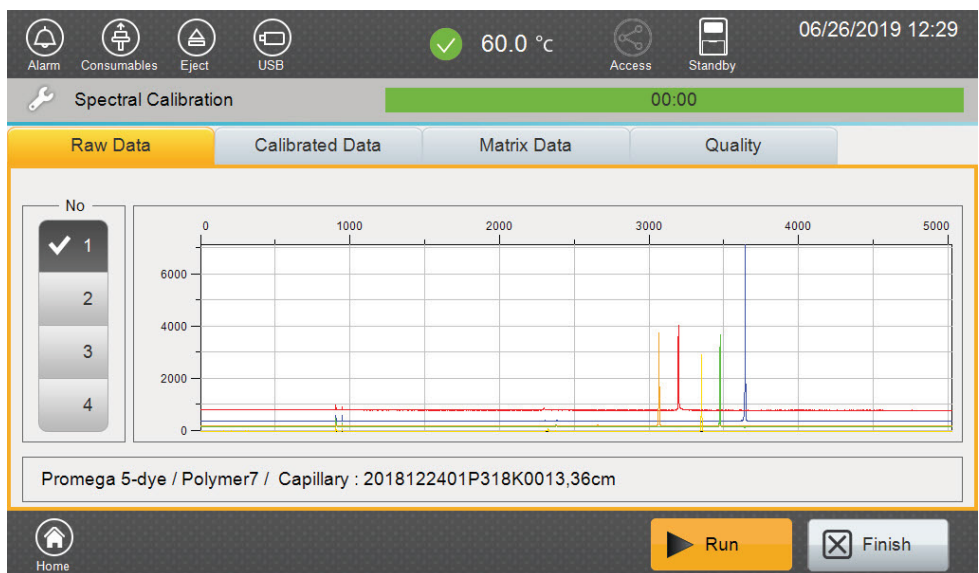

Figure 10. Spectral Calibration 'Raw Data' tab screen.
1. Following the run, the 'Raw Data' tab (Figure 10) will be displayed. The minimum peak height for spectral calibration is 500 relative fluorescent units (RFU) and the maximum peak height is 32,767RFU.